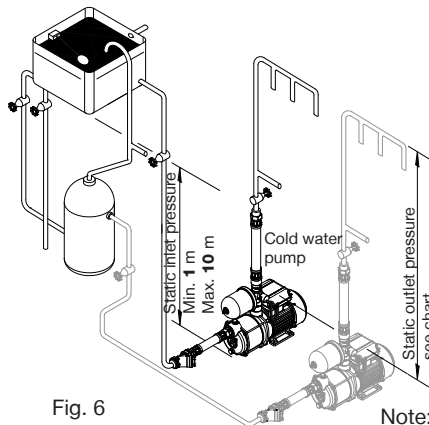

Fig. 6
- 2.16 **Static inlet pressure:** Before deciding where to locate the unit check to ensure the static inlet head between pump and the bottom of the cold water tank (Figs. 6 & 7) is at least 1 metre and does not exceed the max inlet head of 8 metres for the U1.4 and 10 metres for other models.
- 2.19 **Static outlet pressure:** The static outlet head (Figs. 6 & 7) must also be within the maximum requirement as shown in Section 7 - Technical Specification.